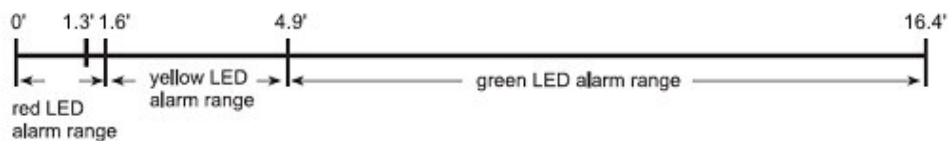

Figure 4
2. The three separate LED alarm ranges are described below in Figure 4. The horizontal axis represents the distance between the SENSOR UNIT and the car, the SENSOR UNIT is at the zero feet position.